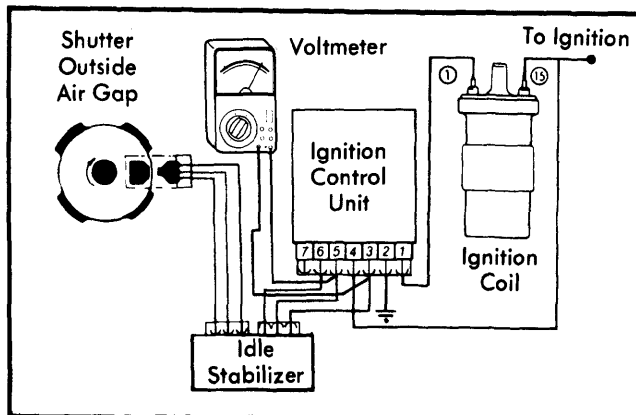

Fig. 9 Voltmeter Hookup for Final Hall Sending Unit Check
4) Connect voltmeter leads in same manner to terminals 3 and 5 of control unit. See Fig. 9. Turn ignition switch "ON". Voltage should be a minimum of 7.5 volts.